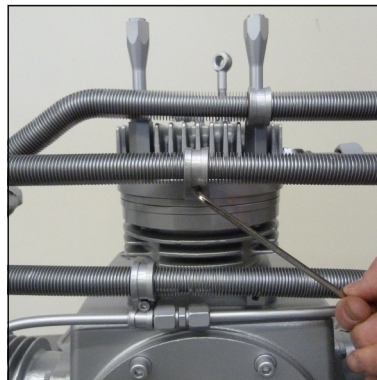

Fig. 3- clamp of cooling pipe
- Loosen clamp of cooling pipe (Fig. 3).